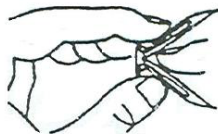

Figure 8.
WARNING: Maintain minimum clearances shown in figure 8. If you can, provide greater clearances from the floor and joining wall.
2. Fold wall anchor as shown in figure 8 below.